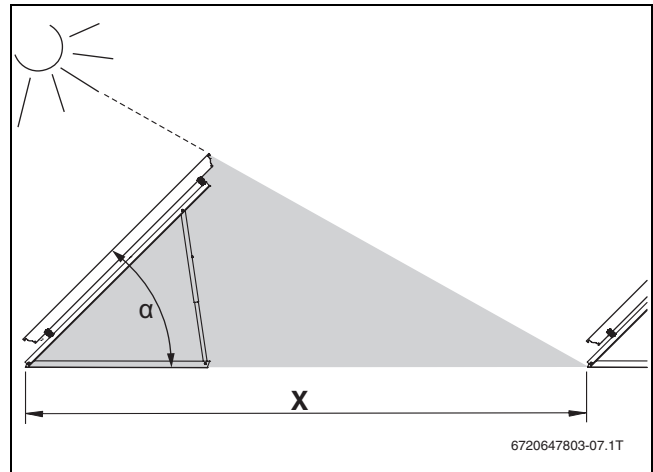

Fig. 19 Clearance and shading, flat roof installation
- ▶ For arrays comprising several rows, select clearance X large enough to prevent shading from occurring (→ Fig. 19 and 20).